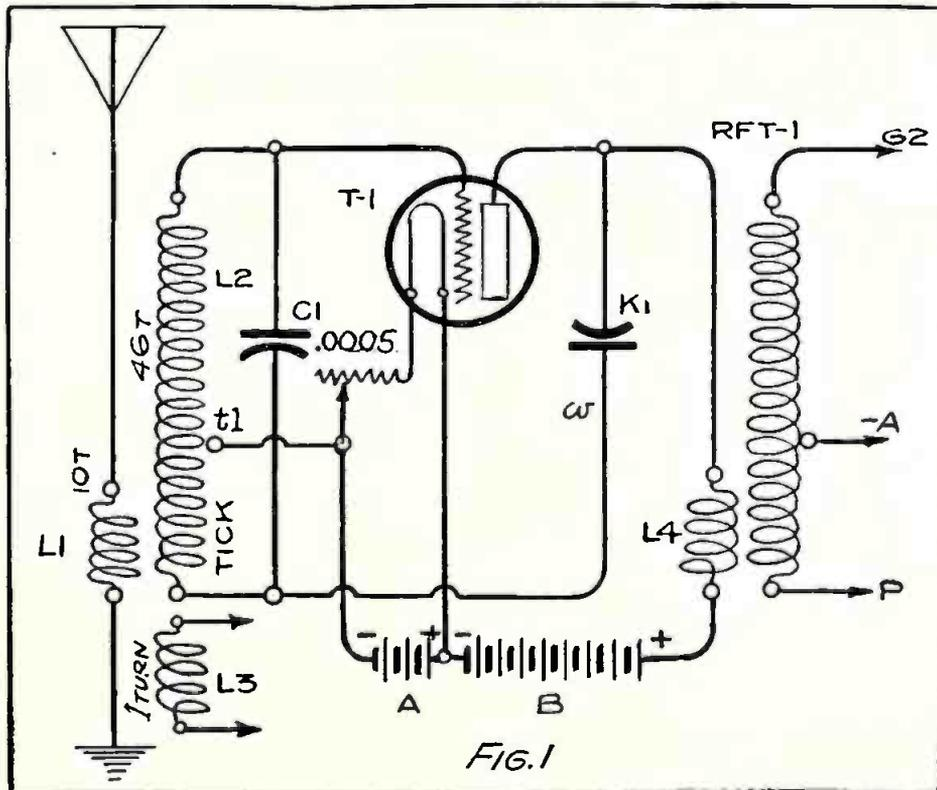

FIG. 1
Because of the many functions performed by each of the tubes and the relations existing between the various stages, it will probably be easier to explain each stage by itself and then show them completely assembled in their proper relative positions. In Fig. 1 we have isolated the first or radio frequency amplifying stage from the balance of the circuit in order to show how the regenerative feature is attained and how the oscillator coupling is effected.
A rather unusual link coupling (M) is made between the oscillator circuit and the radio frequency secondary by coils (L3) and (L8). As before explained, coil (L3) forms a portion of the antenna tuning unit as shown in Fig. 1, but the coil (L8) consists of two turns of wire wound between the grid and plate coils (L6) and (L7) of the oscillator circuit. This arrangement gives the necessary loose coupling between the two circuits, and at the same time is mechanically advantageous in assembling the coils in the receiver. Coils (L6) and (L7) = 28 turns of No. 22 wire, (L8) = 2 turns of No. 22.